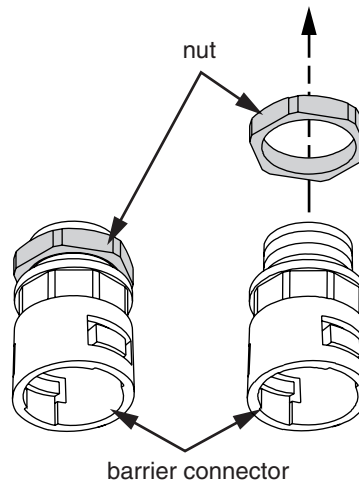

Figure 3: Removing the nut from the barrier connector
1. Remove the nut from the barrier connector (see Figure 3).